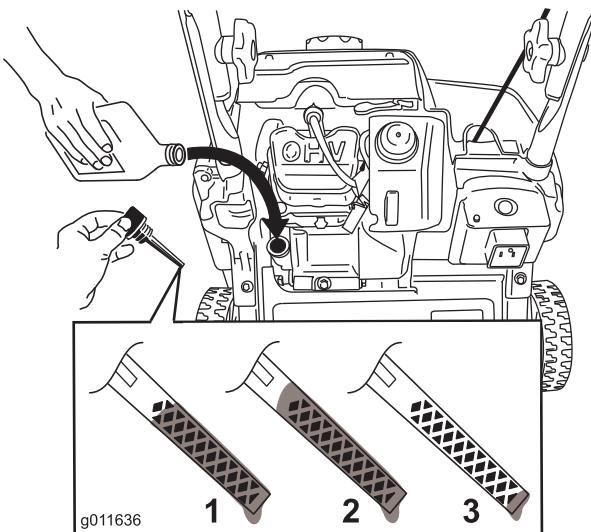

Figure 8
- Clean around the oil fill cap (Figure 8).
Note: To determine the proper oil level on the dipstick, refer to Figure 8.
Note: Fill the engine crankcase with oil until the dipstick indicates that the engine oil level is correct as shown in Figure 8. If you overfill the engine with oil, remove the excess oil as directed in Changing the Engine Oil.